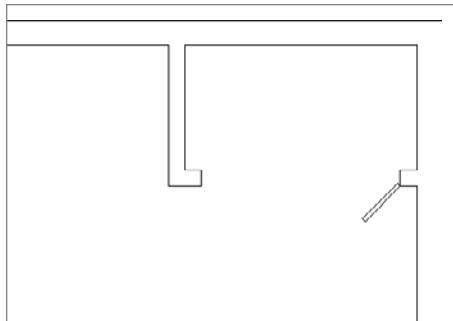

FIGURE 4.76 The first closet door panel is rotated.
8. Enter **-45 ↴**. The door rotates 45° (see Figure 4.76), and the ROTATE command ends.